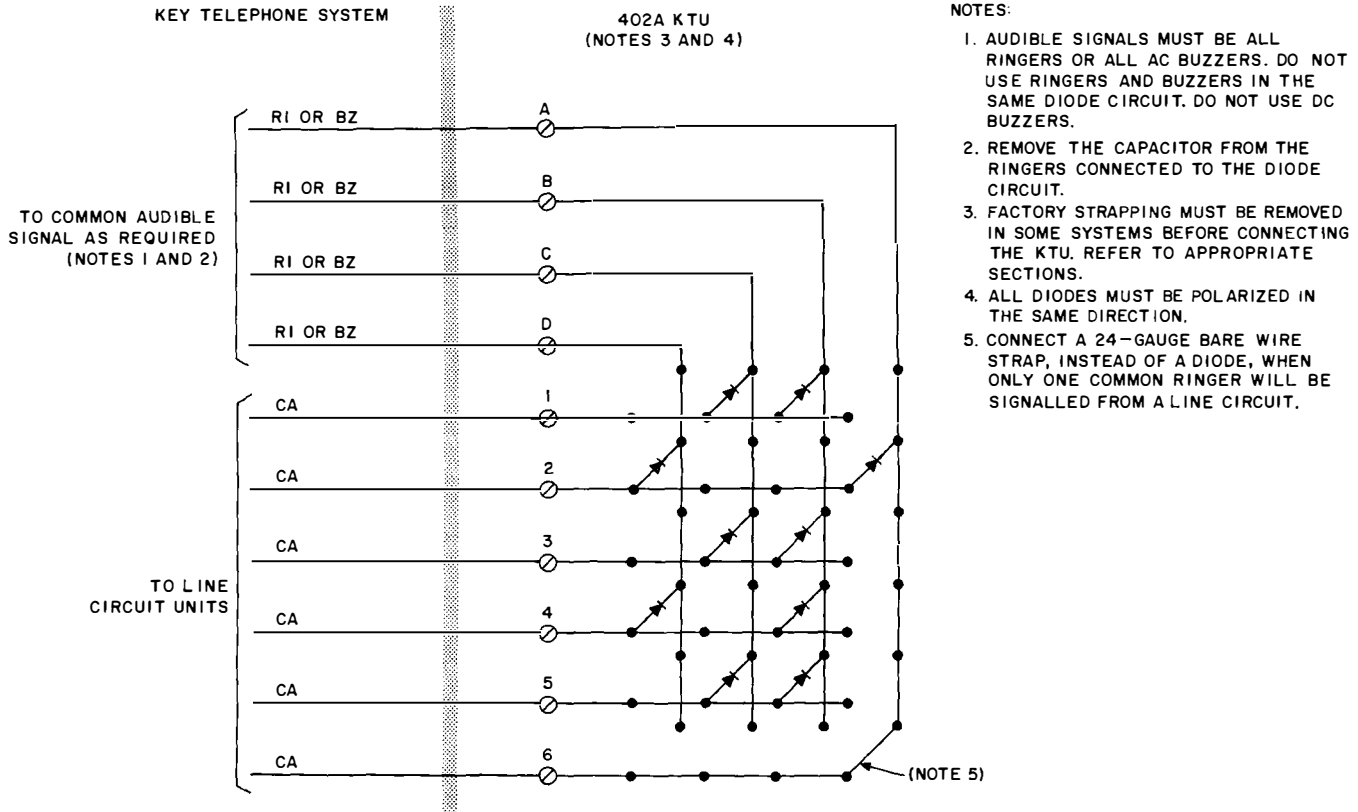

Fig. 3 — Typical Connections For 402A KTU
**4.02** Connect the common ringer leads and the line circuit control leads to the KTUs as required (see Fig. 3 and 4).